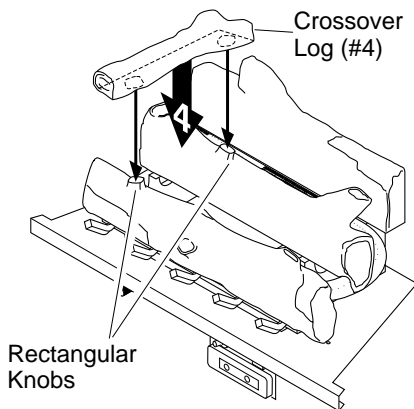

Figure 42 - Installing Crossover Log (#4)
4. Locate the notches in the bottom of the crossover log (#4). Place the crossover log on top of the middle log and front log. Make sure the notches of the crossover log lines up with rectangular knobs on top of the middle and front logs (see Figure 42).